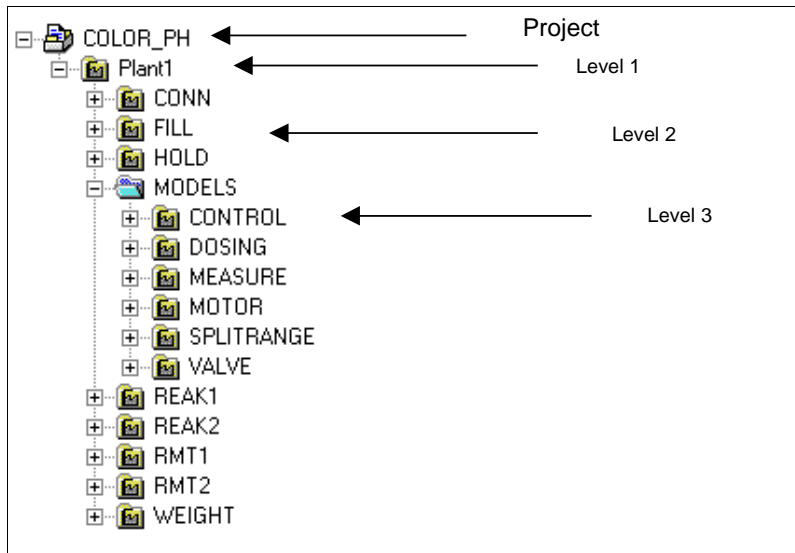

Figure 6-8 Plant Hierarchy of the "COLOR\_PH" Project
2. Select the project in the plant hierarchy and create the plant hierarchy as explained in the example (see Figure 6-8) (menu command **Insert > Technological Objects > Hierarchy Folder**).